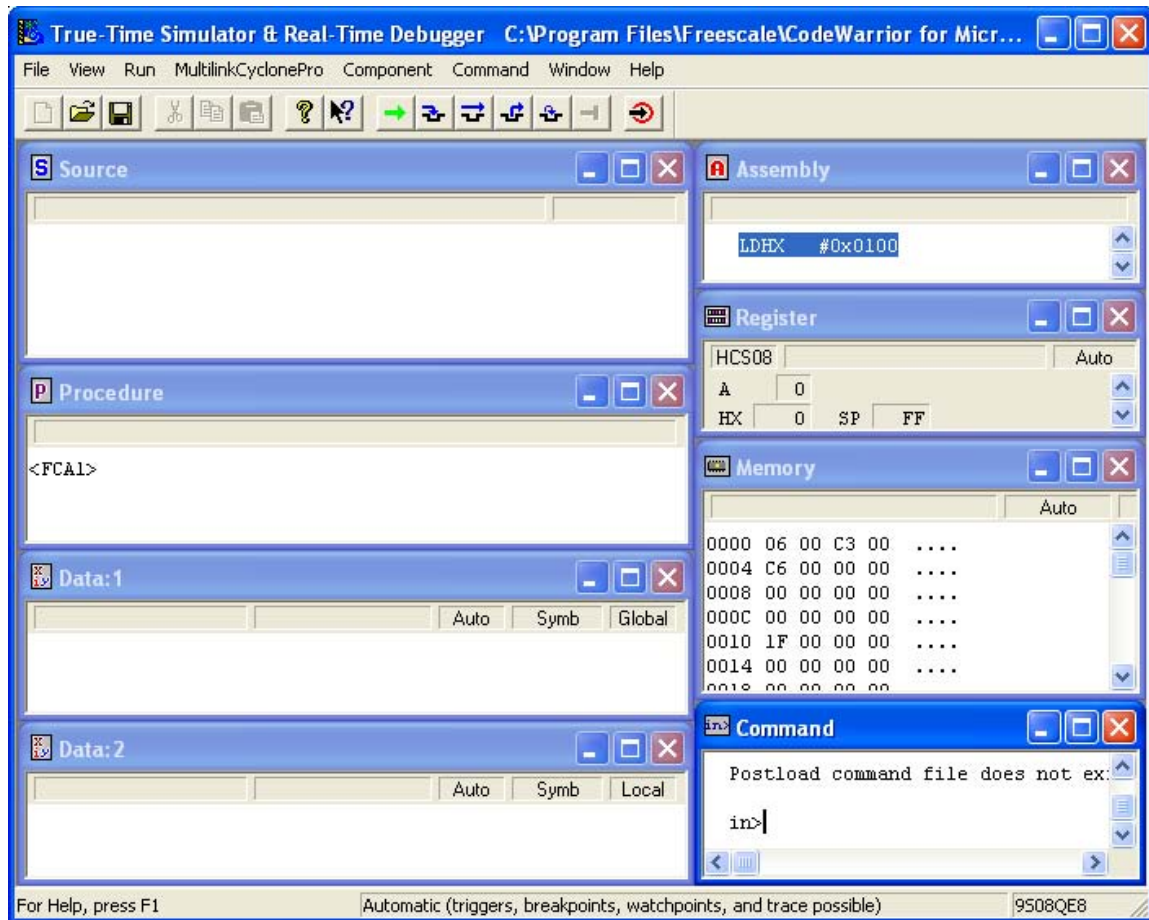
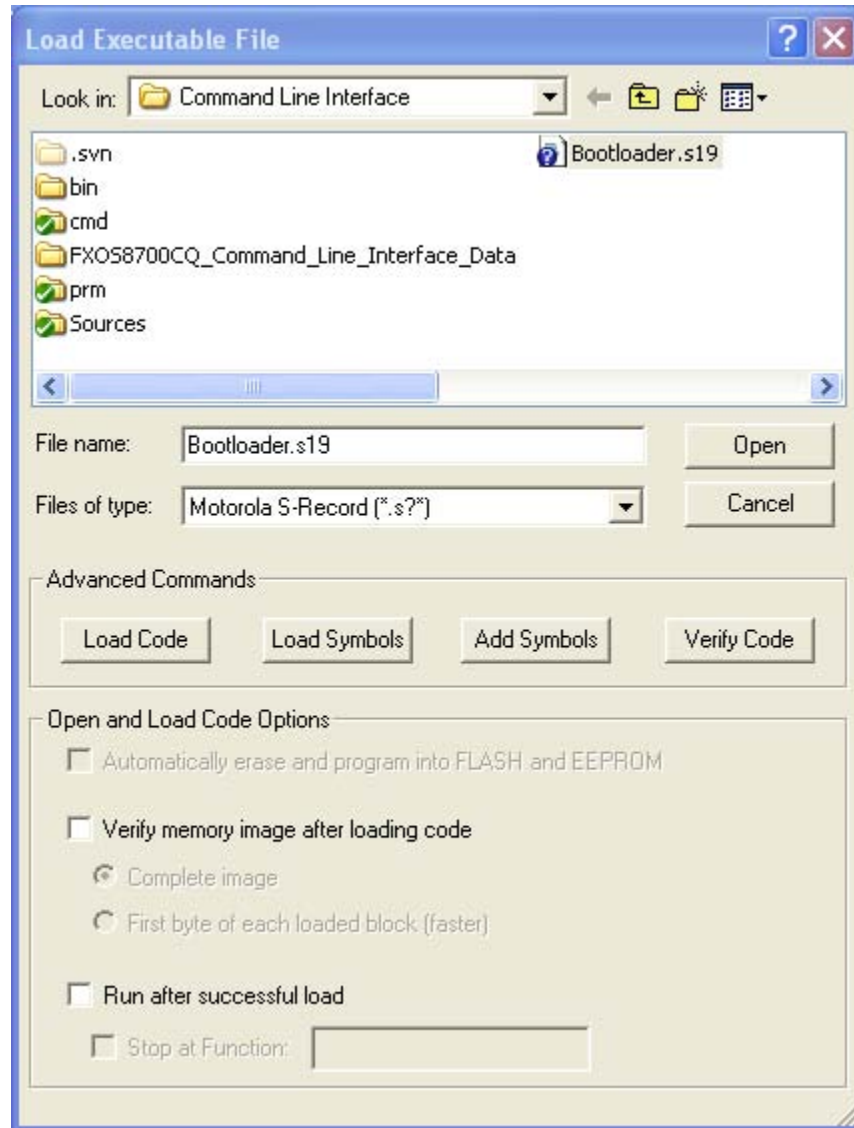

Figure 7. True-Time Simulator and Real-Time Debugger
Figure 8. Load Executable File
5. In the True-Time Simulator & Real-Time Debugger window (Figure 7) click on Multilink Cyclone Pro > Load... and select the file Bootloader.s19 included in the AN4460.zip. (Figure 8)